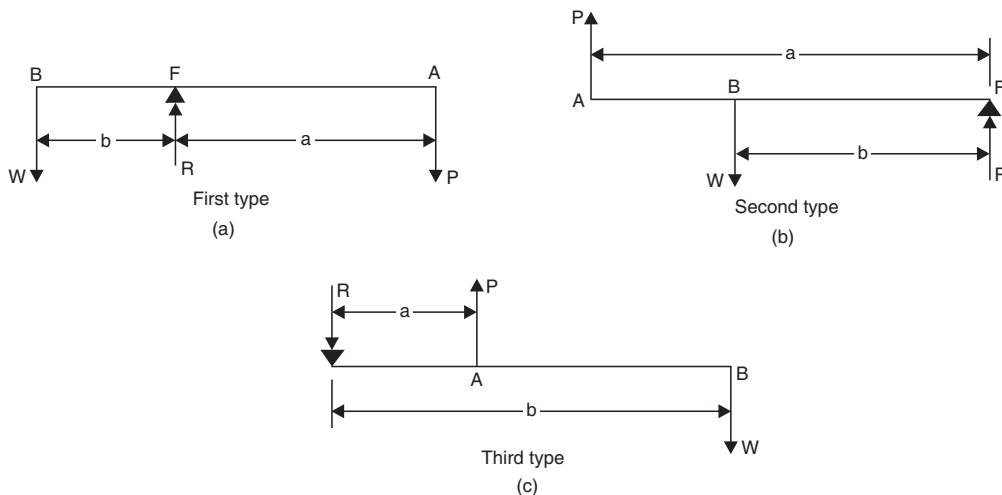

Fig. 3.18
(a) **Simple levers.** A simple lever is one which has only one fulcrum. These levers consist of only one power arm and one weight arm as shown in Fig. 3.18.
**Type 1.** Fulcrum between  $W$  and  $P$  [Fig. 3.18. (a)]
**Type 2.** Weight between  $F$  and  $P$  [Fig. 3.18 (b)]
**Type 3.** Power between  $W$  and  $F$  [Fig. 3.18 (c)]